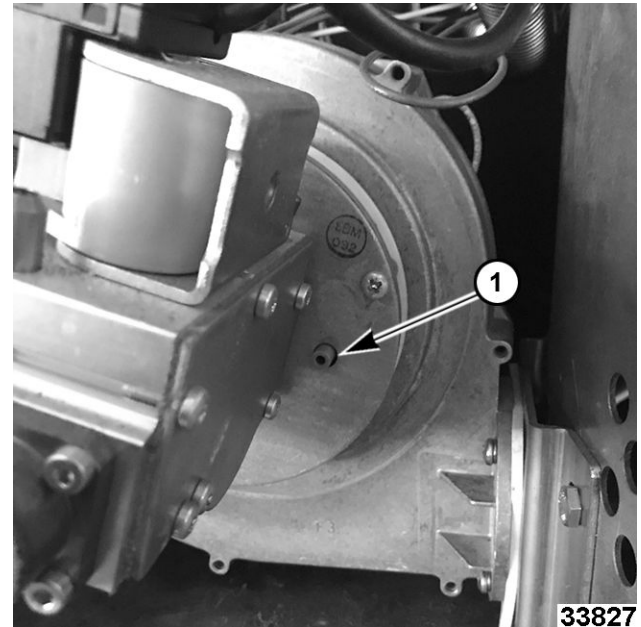

Fig. 42
3. Attach U inclined manometer hose to test port (1, Fig. 42).